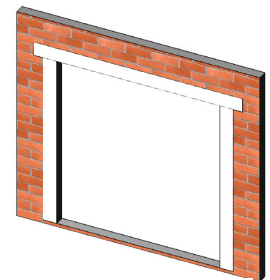

Figure 22:
3. Finally, at the head, embed the flashing into the sealant on the mounting flange and fasten into place. The flashing paper should be cut sufficiently long enough to extend past the flashing paper at each jamb by at least 3 in (Figure 22).